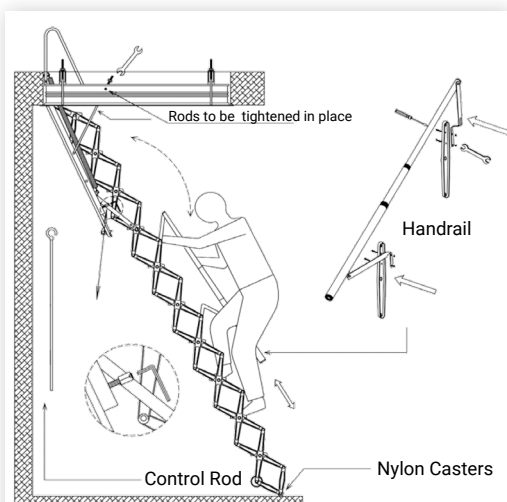

figure 9
4. Once the ladder is adjusted and fixed securely in the right position, you will need to connect the ladder to the most safe and accessible electricity source. Upon connection to electricity and when it is ensured that batteries are in the remote, the ladder will be easily operated by the use of the remote. Should the ladder need to be adjusted to the stud height of your house, you must adjust the rods, by either screwing down or screwing out both M10 nuts with a spanner. (The nuts must always rest simultaneously on the ratchets). Adjust treads to level. (Figure 9)
5. In the case that you have to fit a handrail on the ladder, you will need to fit it on when the ladder is unfolded. Place the handrail next to the ramp, with the "L" - shaped lever beside the bottom pre-drilled lever and the straight lever. Once the rail is placed correctly on the ladder you will need to use a screwdriver and spanner to bolt the rail to the side of the stair. (Figure 9)